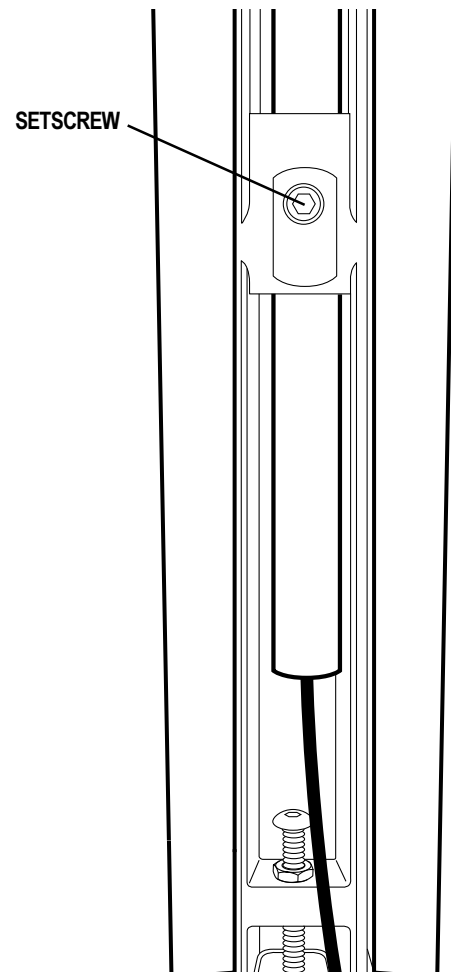

Figure 12. Underside of Armrest
1. Use a hex key to loosen the setscrew. See figure 12.
3. Use a hex key to loosen the setscrew under the armrest. See figure 12.